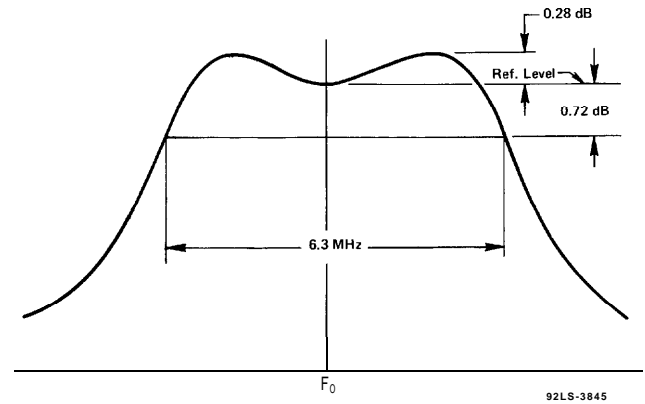

Figure 2 - Bandwidth Characteristics
- r The bandwidth of 6.3 MHz is calculated at the -0.72 dB power points of a double-tuned output circuit using two times the tube output capacity and a damping factor of 1.5 as shown in **Figure 2**.